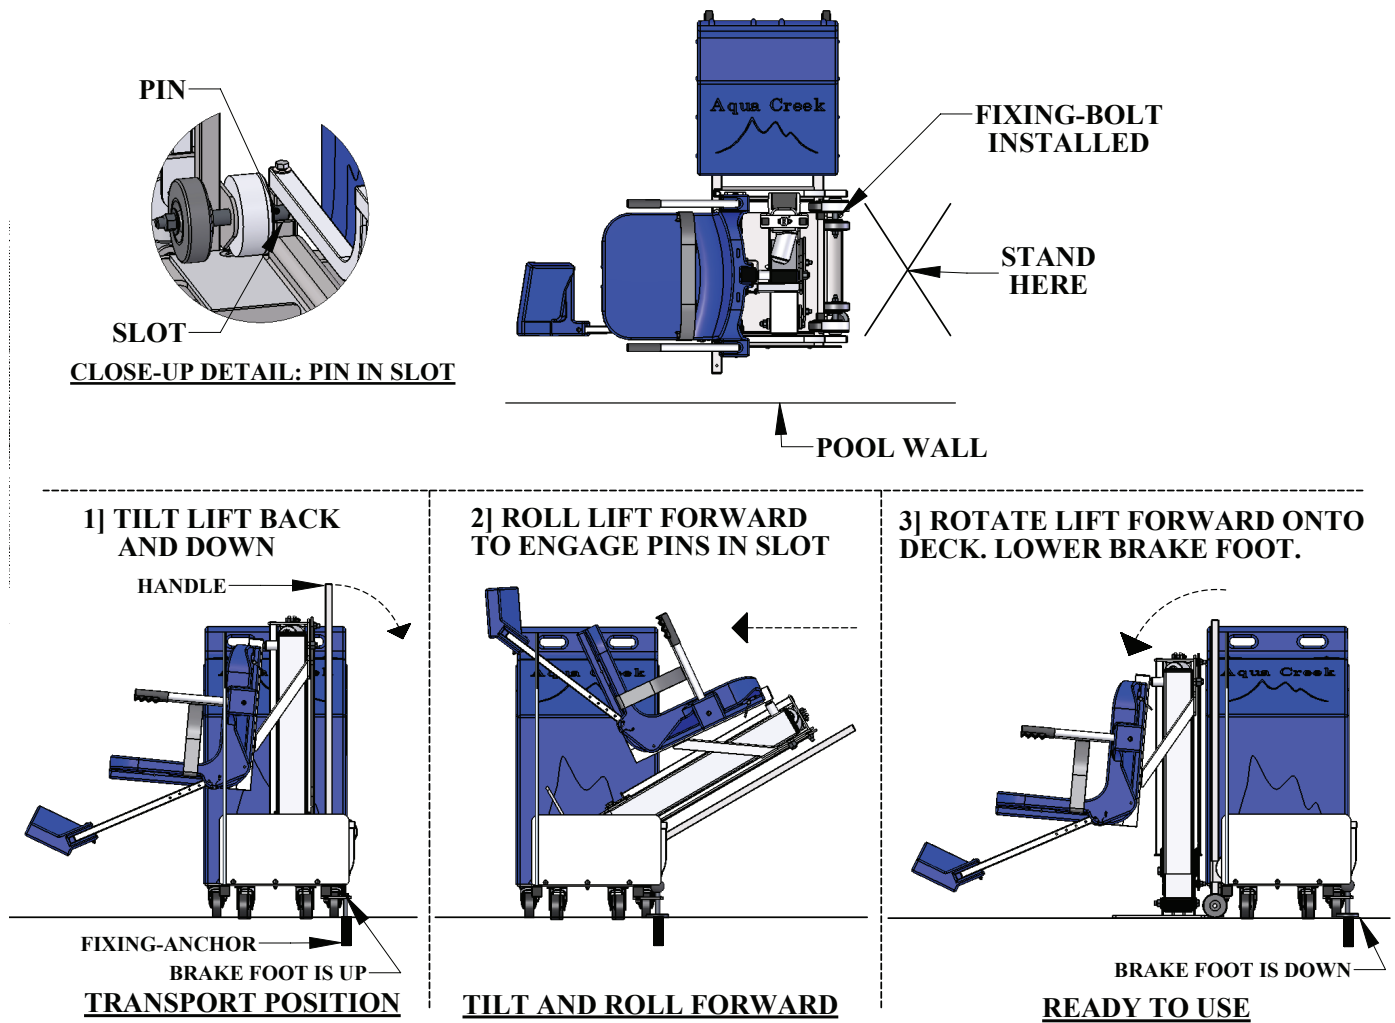

FIGURE 2
1. Roll Patriot Lift to designated position on the deck and lock the casters. Install fixing-bolt (when required). Stand behind the lift to tilt it back and down using the handle. (see FIGURE 2)